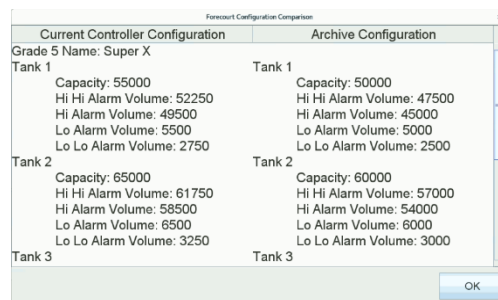

Figure 24: T-POS Configuration Management
**Non Electronic Totals Dispensers:** All legacy dispensers, lacking the built-in totals meter functionality, have to be added here. If more than one legacy dispenser is present, use a comma to separate each one (see Figure 24).